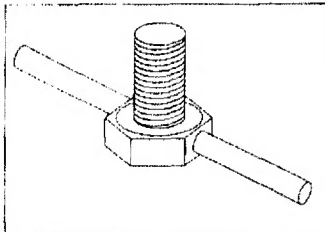

Fig. 4: Lock Knob with Twist Bar.
Unthread and remove the lock knob with twist bar, Fig. 4, and two washers from the base of the Equatorial Head (5), Fig. 3. Place the Equatorial Head on the Tripod Head (4), Fig. 3, aligning it so that the Azimuth Tangent Arm (2), Fig. 3, slips between the two Fine Azimuth Adjustment Knobs (1), Fig. 3.
With the Equatorial Head (5), Fig. 3, sitting flat on the Tripod Head (4), Fig. 3, place the small washer, then the large washer over the threads of the lock knob with twist bar, Fig. 4, and from the underside of the Tripod Head